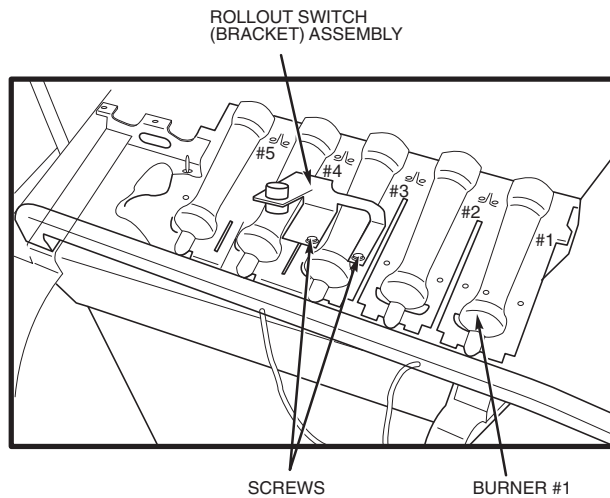

Fig. 5 — New Rollout Switch Location
Step 2 — Rollout Switch Relocation — Remove the 2 screws securing the rollout switch to the no. 4 burner and save. Reattach the rollout switch to burner no. 3 using same screws. See Fig. 5.